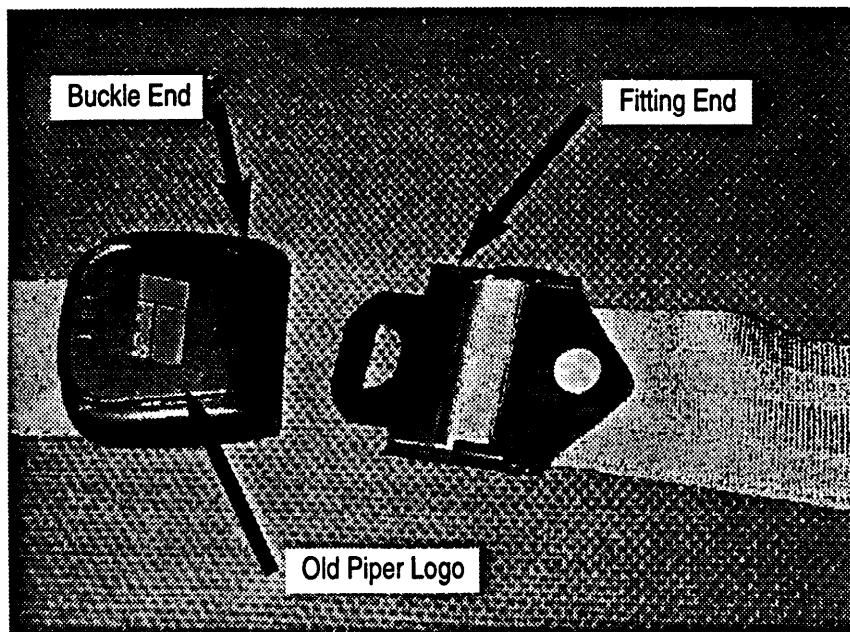
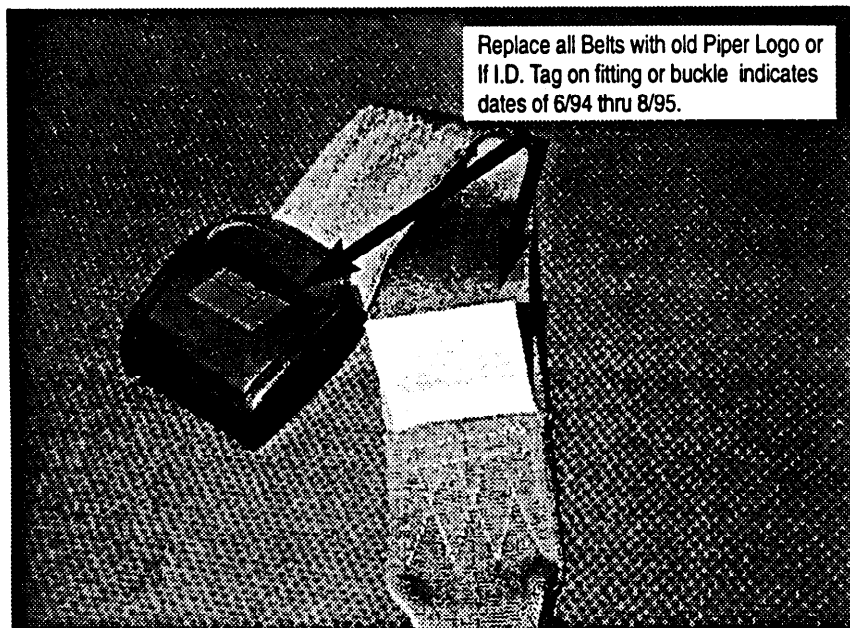
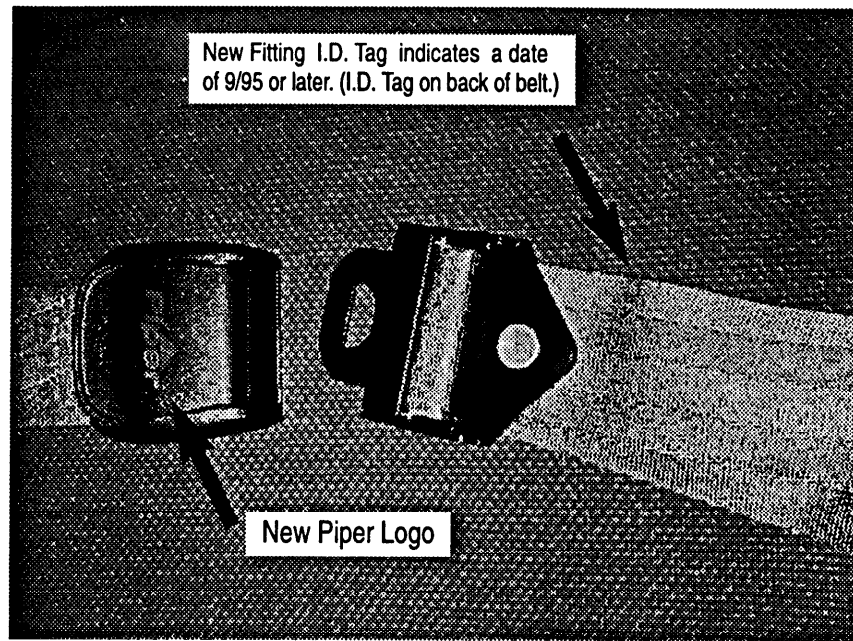

FIGURE 1 (Suspect Belts)
FIGURE 2 (Identification Tag)
FIGURE 3 (New Replacement Belts)
1. Inspect seat belts at each position in the aircraft. If seat belts conform to the information shown on Fig. 3 no further action is necessary. If the seat belt does not conform, proceed to Instruction 2 (see Figures 1 and 2). If parts are not immediately available or should the aircraft need to be flown to an approved service center, the existing seat belts may be utilized provided the pilot in command inspects each seat belt being used for secure positive latching and that the seat belts are free of any anomalies prior to each flight and during each usage.
2. Determine if the aircraft is equipped with the affected seat belts. Seat belts are affected if they are manufactured by Pacific Scientific and the seat belt has a date stamp of 6/94 through 8/95 (See Fig 2), if the seat belt buckle end has an old Piper logo or no logo (See Figs. 1 and 4.), and if the seat belt fitting end I.D. tag has a date stamp of 6/94 through 8/95. (See Fig 2.)
3. Gain access as necessary to remove all affected belts and replace with new. All improved seat belts will have The New Piper Aircraft, Inc. logo on the buckle end. (See Figs. 3 and 4.) All improved seat belt fitting ends will also have a date stamp on the I.D. tag of 9/95 or later.